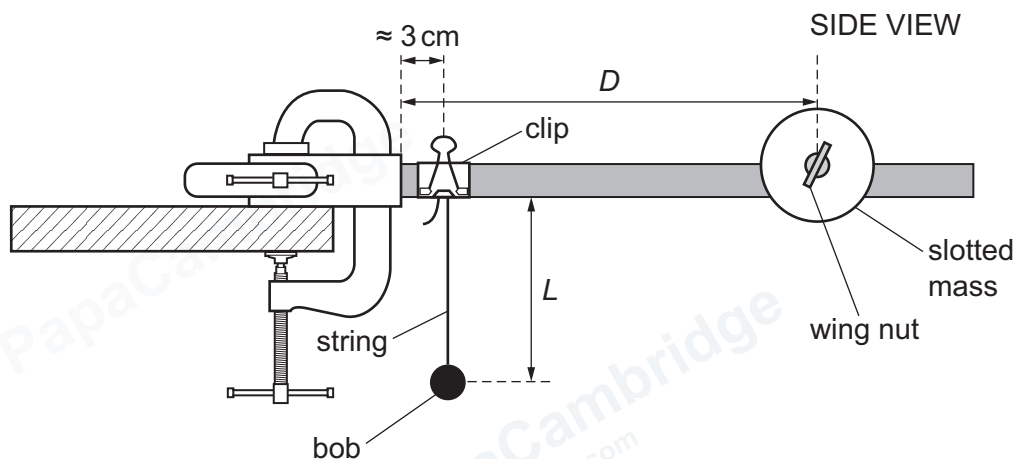

Figure 2.4
- The distance between the bottom of the hacksaw blade and the centre of the pendulum bob is L as shown in Figure 2.4.
- Adjust the string so that L is approximately 4 cm. Secure the string with the clip, as shown in Figure 2.4.
- The distance between the centre of the masses and the wooden blocks is D , as shown in Figure 2.4.